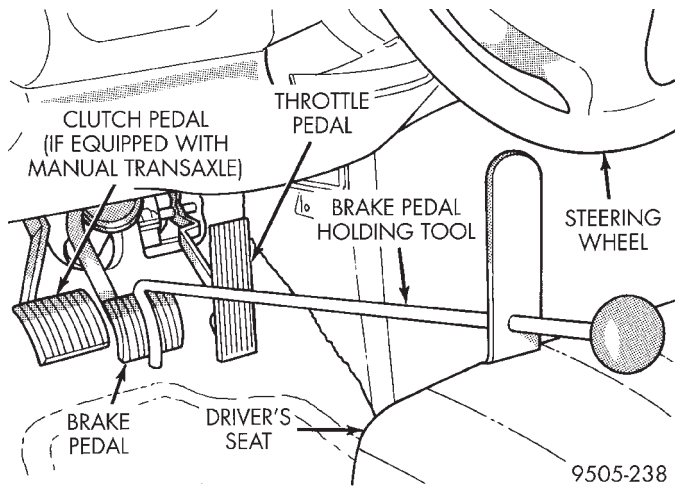

Fig. 13 Brake Pedal Holding Tool Installed
(3) Using a brake pedal positioning tool such as shown in (Fig. 13) depress brake pedal past its first 1 inch of travel and hold in this position. This will isolate the master cylinder reservoir from the brake hydraulic system, not allowing the brake fluid to drain out of the reservoir.